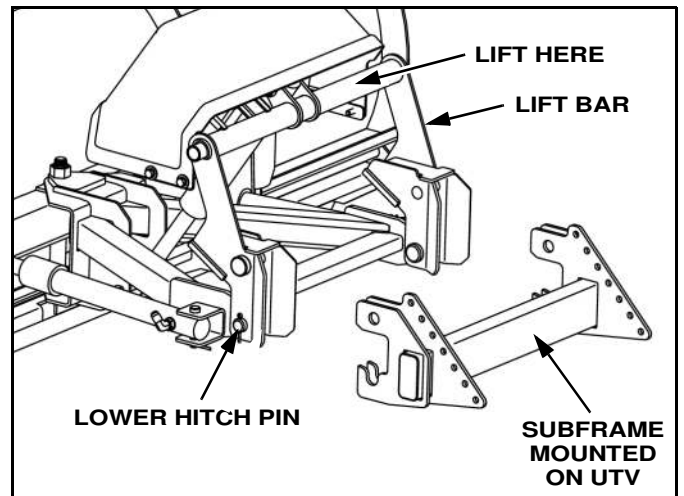

Figure 1-17
6. Disconnect power harness and replace protective caps. Grab tube on lift bar. Lift rear of plow and pull away from UTV. (See Figure 1-17)